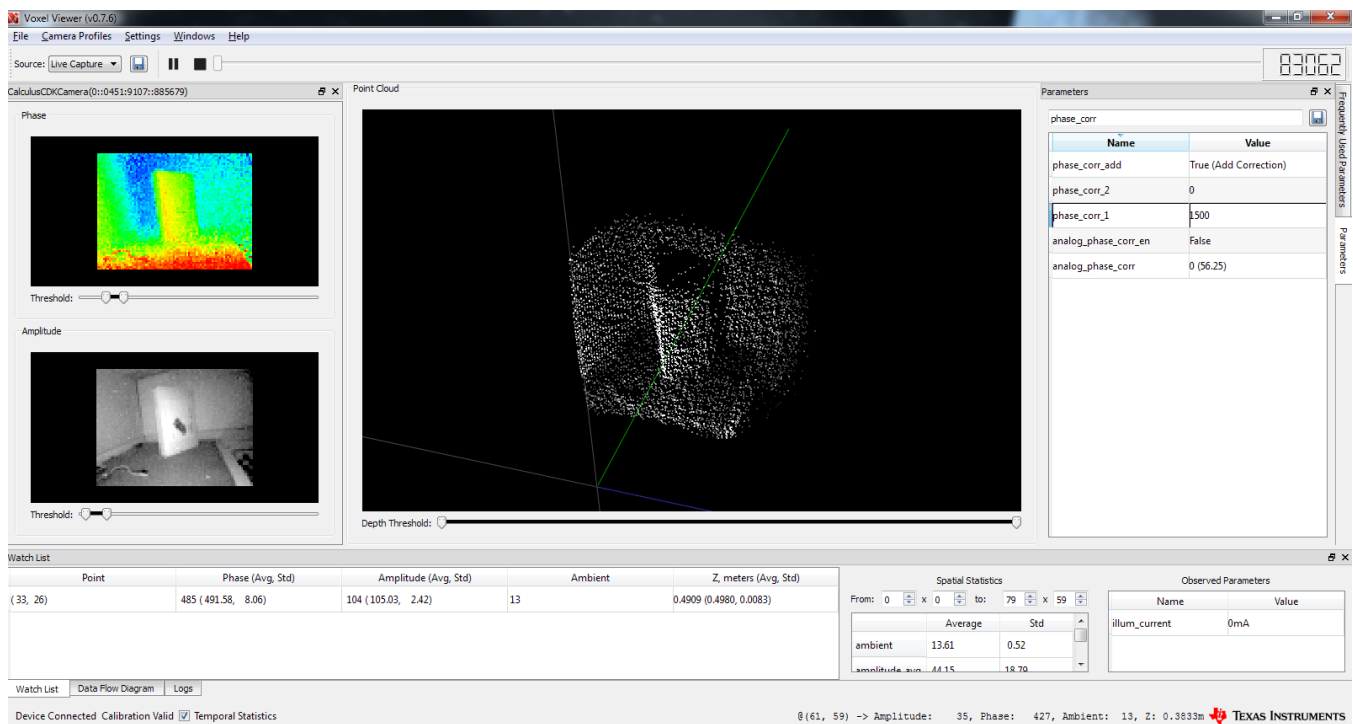

Figure 3. Streaming Enabled
4. A sample screenshot with streaming enabled is shown in Figure 3.